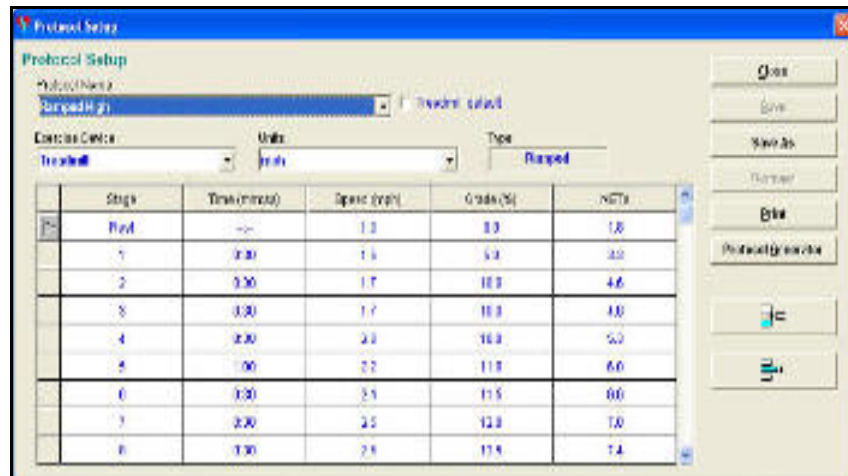

Figure 10-17: Example of the Protocol Setup window
3. Select a protocol close to the one you want to create. It will be shown in the Protocol Setup window (Figure 10-17).